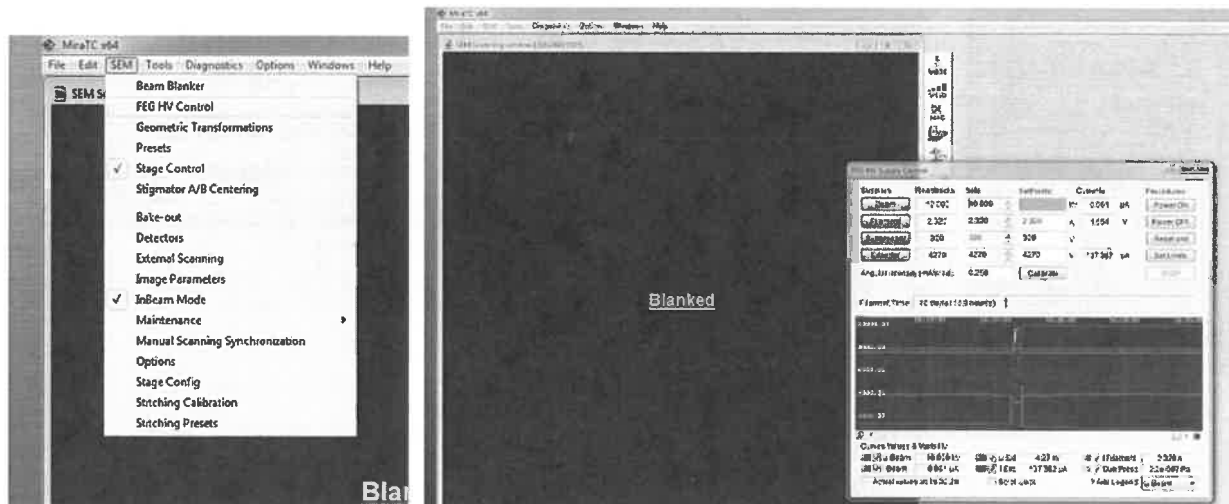

Figure 1. FEG HV Control
- Select FEG HV Control from the SEM menu. Select "Reset unit". After the unit has been reset, select Power ON to turn on the gun. This process will take approximately 45 minutes to complete. The gun may have to be aligned after this point. See Figure 1.